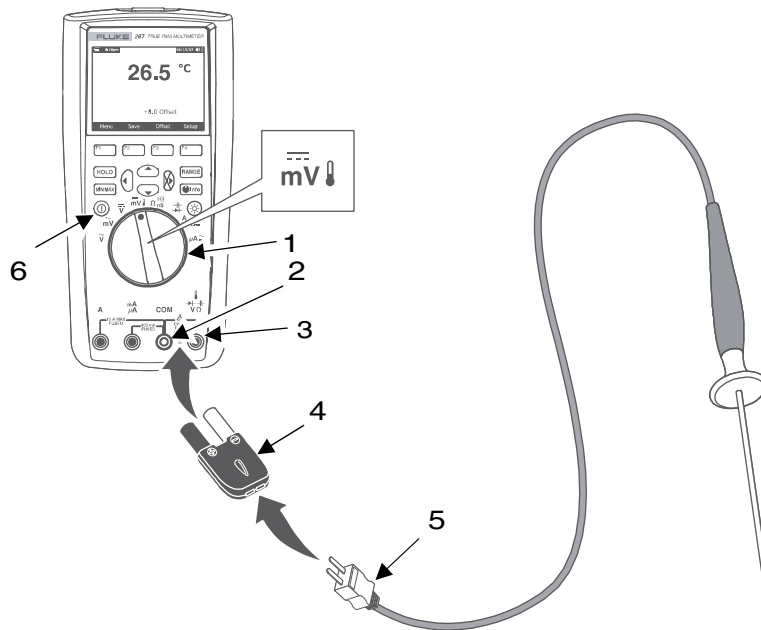

Figure 11. Temperature Measurements
1. Insert the adapter (Figure 11., Item 4) negative lead (black) into the COM (Figure 11., Item 2) and positive lead (red) into volts/resistance (Figure 11., Item 3) terminals at the same time.
2. Insert the temperature probe connector (Figure 11., Item 5) into the adapter (Figure 11., Item 4).
3. Press the On/Off button (Figure 11., Item 6) to turn the multimeter on.
4. Position the rotary switch (Figure 11., Item 1) to the mV- position.
11. To exit the temperature mode, position the rotary switch (Figure 11., Item 1) to any other mode.
8. To exit the diode mode, position the rotary switch (Figure 11., Item 1) to any other mode.